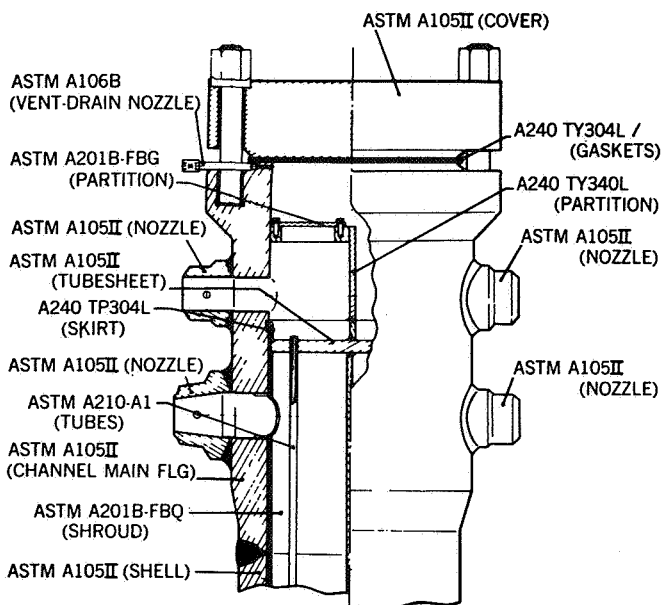

Figure 7. Secondary synthesis converter interchanger.
2. Secondary synthesis converter interchanger—internal leak, Figure 7.